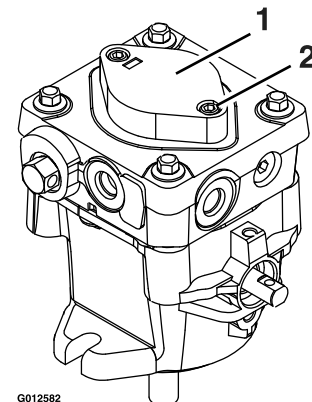

Figure 21
- If either drive wheel does not rotate, one or both of the charge pumps (located on the top of the main pump as shown in Figure 21) may have lost their “prime”. Refer to **Hydraulic System Air Purge** section.
The critical area for purging air from the hydraulic system is between the oil reservoir and each charge pump located on the top of each variable displacement pump (Figure 21). Air in other parts of the hydraulic system will be purged through normal operation once the charge pump is “primed”.
5. To “prime” charge pump, loosen two hex socket head capscrews (shown in Figure 21) **1 1/2 turns only. Make sure engine is not running.** Lift the charge pump housing upward and wait for a steady flow of oil to flow out from under the housing. Retighten the capscrews. Do this for both pumps.